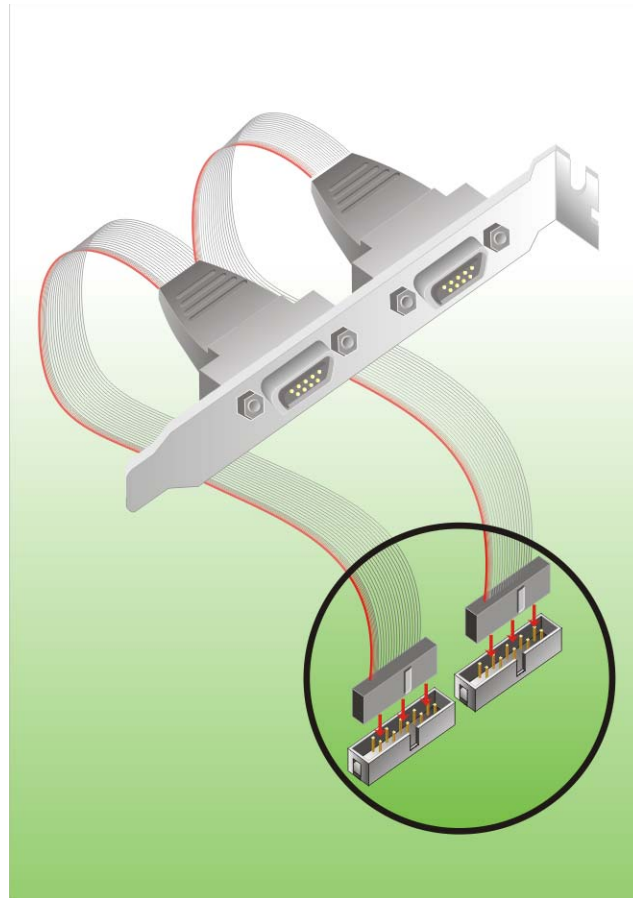

Figure 5-10: Dual RS-232 Cable Installation
- Step 2:** Insert the two small connectors on the cables into the serial port box headers on the CPU card (**Figure 5-10**).